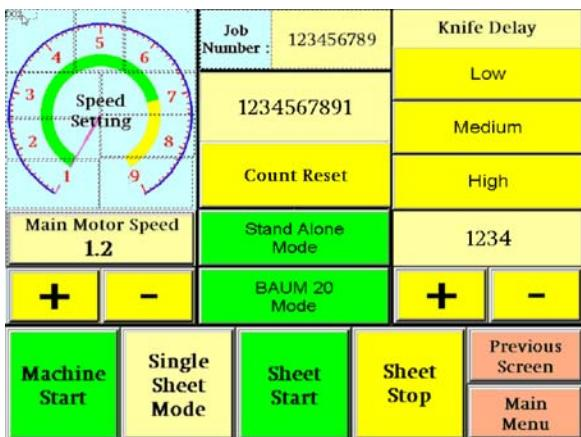

Figure 5
1. Start from the **home/production screen**. See figure 5 for home/production screen.